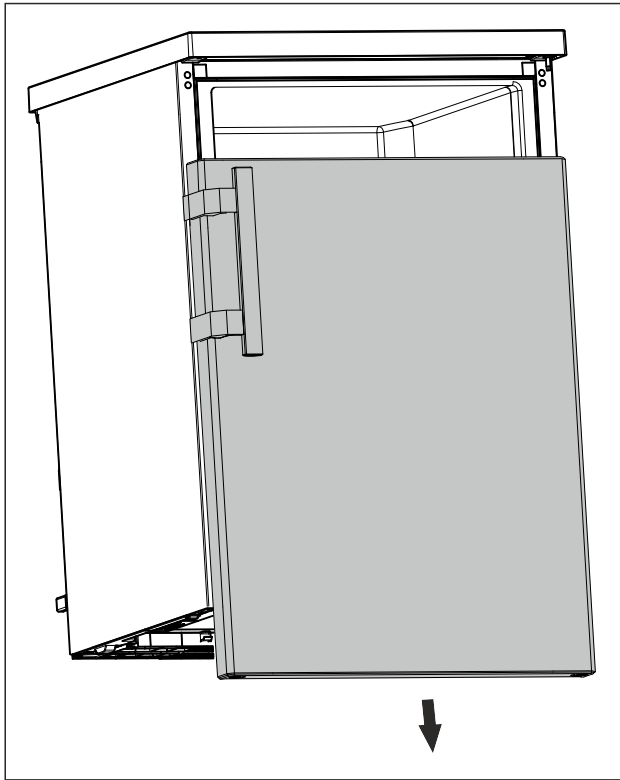

Fig. 12
- ▶ Remove the door downwards. (see Fig. 12)